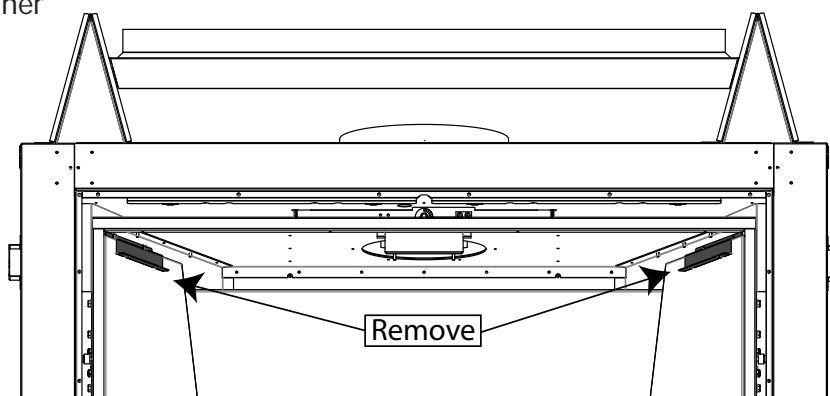

Figure 74: Liner Retainers
Step 3. Remove the side liner retainers one at a time using a 5/16 socket (see Figure 74). The screws only have to be loosened, not completely removed, as the retainers are slotted.